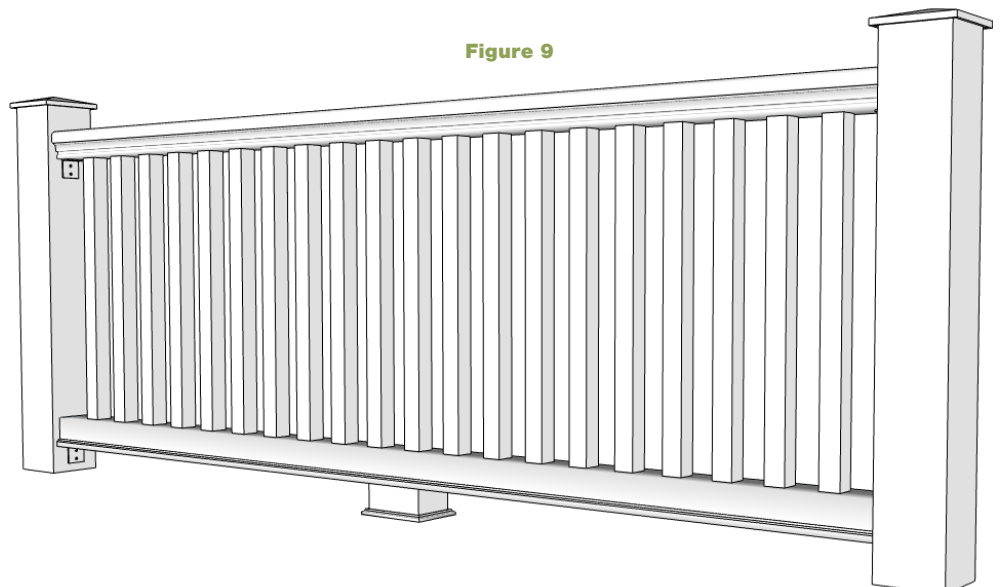

Figure 9
- B. Apply adhesive to the ends of the rails and position the assembly into the opening. Drill 1/8" pilot holes and fasten the bottom rail brackets to the post, and the top rail brackets to the rail. See figure 9. Repeat for each section until completion.